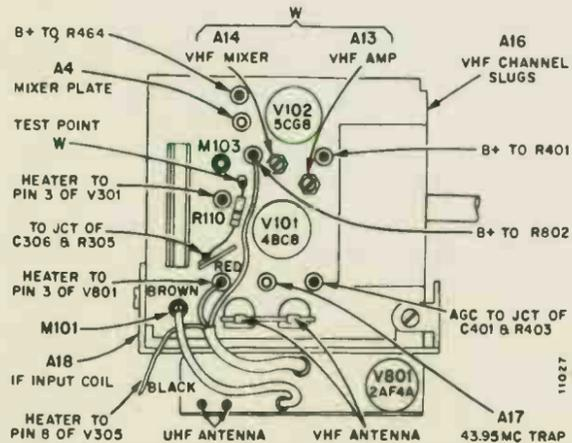

Figure 33. Top View of VHF Tuners 94E144-9, -22, -27, -30 and UHF Tuner 94D112-5 or 94D155-3 Showing Adjustment Locations.
- Connect oscilloscope through a 10K resistor to test point "W" on VHF tuner (figures 33 and 34). Keep scope leads away from chassis.